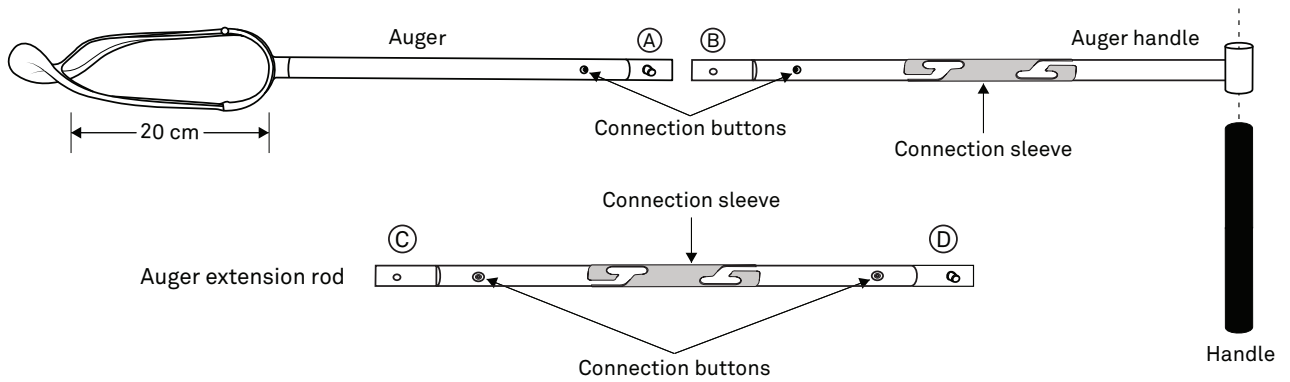

Figure 2 Assemble auger and extension rod
- a. Attach the end of the Auger extension rod (C) to the end of the Auger rod (A). (Figure 2)
- b. Align the connector sleeve slot on the Auger handle rod (B) with the connection buttons.
2. **[REQUIRED]** Assemble the Auger handle rod and the Auger rod (Figure 2).
- a. Attach the end of the Auger handle rod (B) to the end of the Auger rod (A) or the Extension rod (D).